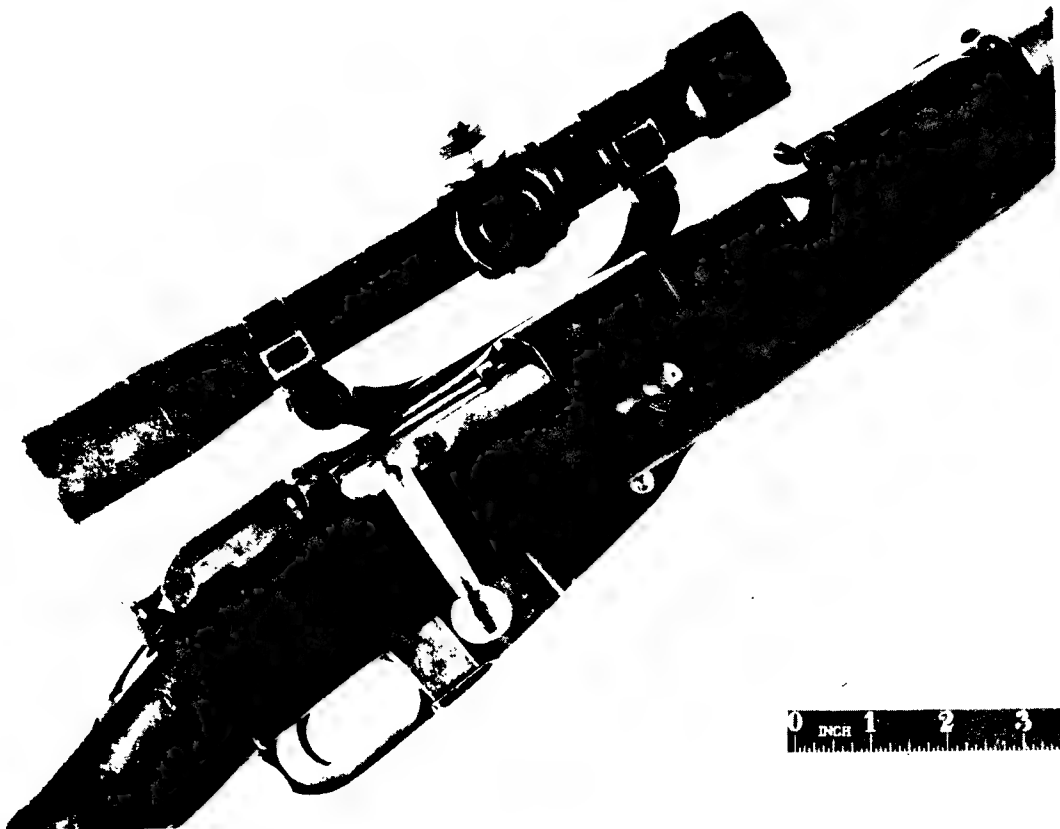

FIGURE 22. SNIPER RIFLE (MODEL OF TELESCOPE AND MOUNT UNKNOWN).
- b. The bolt handle has been lengthened and bent down to prevent interference with the telescope (fig. 22).
- (1) The stock of the Dragoon rifle M1891 or rifle M1891/30. (The stock of the rifle M1891 also can be used, but will prevent attaching the bayonet.)
- NOTE: If the PU telescope mount is to be used, these stocks must be cut away so that the mount may rest flush against the receiver. (Use of the unidentified sight mount shown in figure 22 may likewise necessitate cutting away part of the stock.)
- (2) The bayonet of the rifle M1891/30.